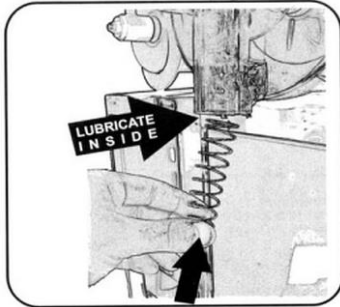
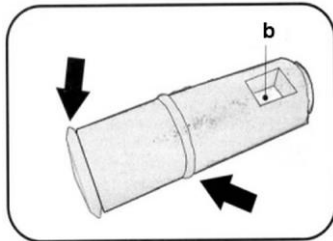

Fig. 38
Fig. 40
1. Before assembling the components of the drain tap, wet the gaskets of the drain tap (Fig. 38) and the gaskets (Fig. 40) with water.
2. Install the drain tap spring and pin as shown in Figures 38 and 39.
3. When inserting the drain tap pin, make sure that the small hole (see Fig. 40) is directly in front of you.